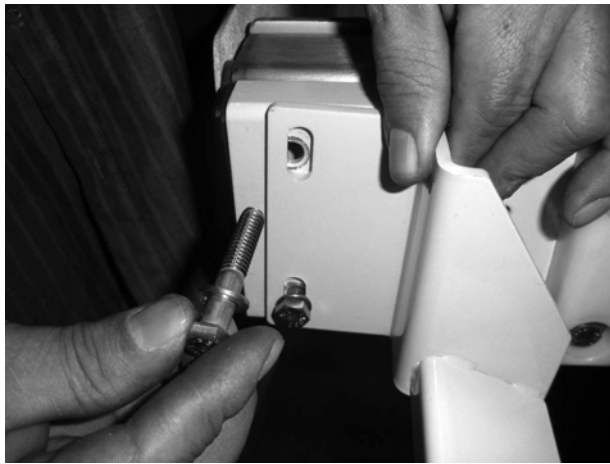

FIGURE 5: STRIKER PLATE INSTALLATION
7. Attach Striker Plate (P/N 44963) to right side of platform by installing (2) 5/16"-18 x 1 3/4" hex screws, (2) split washers and (2) flat washers, as shown in **Figure 5**.